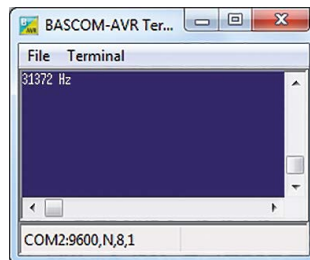

Figure 7. The frequency displayed using the terminal emulator.
Observe one special aspect of the 'Print' commands. Normally Bascom terminates each print command by emitting Chr(13) and Chr(10), which makes it easy to send the output of one Bascom program to the input of another. However, in the receive direction only the character Chr(13) is expected, which means that we can suppress the line feed character (the Chr(10)) and send just the carriage return (the Chr(13)). To display the results we can use Bascom's own terminal emulator: the effect is that each new reading overwrites the old on the same line rather than beginning a new line for each: see **Figure 7**.